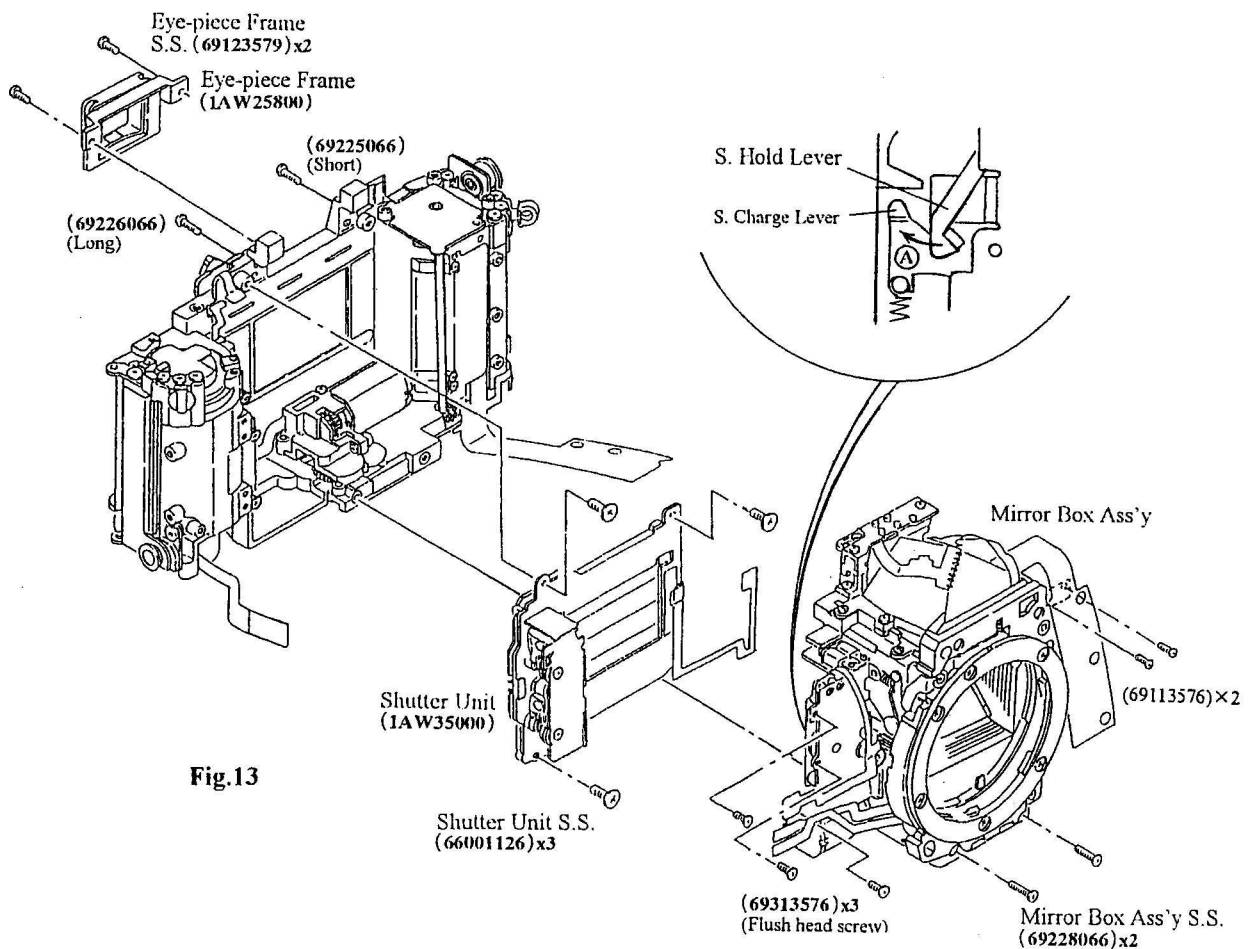

Fig.13
(See Fig. 13)
- a) By moving the S. Hold Lever incorporated in the Mirror Box Ass'y in the direction of the arrow ①, rotate the rotor of the S. Charge Motor to release the hook of the S. Hold Lever and the hook of the S. Charge Lever. In this state, where the mirror is in the UP position, install the Mirror Box Ass'y in the Body. (See Fig. 13)